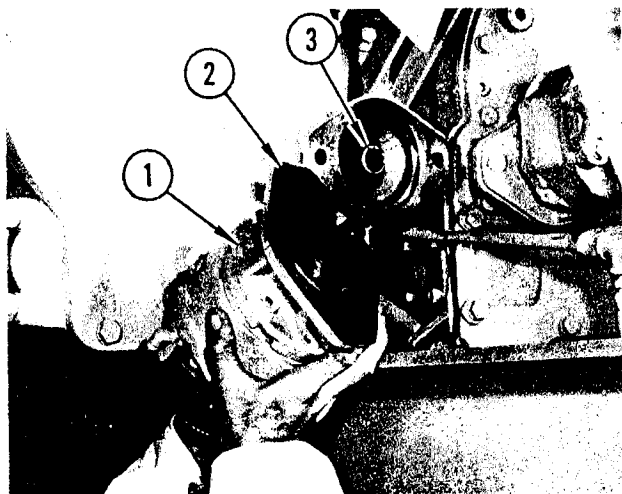

FIGURE 1. BLADE LIFT HYDRAULIC MOTOR
Refer to Figure 1. Remove two capscrews and lockwashers retaining motor to adapter. Remove motor assembly (1) and gasket (2) by pulling straight forward on motor until splines on motor shaft have cleared